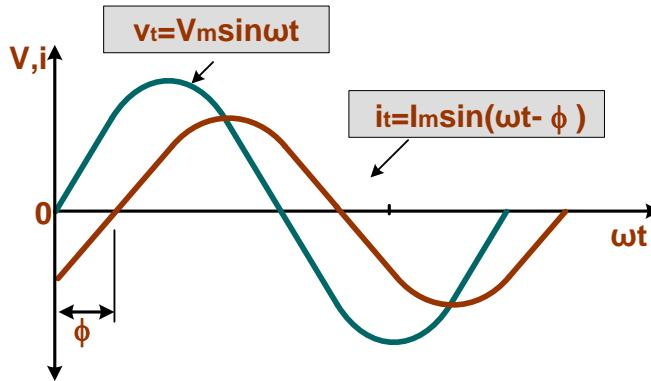

Figure 2.23 Waveform of Voltage and Current of Series R-L Circuit
- The voltage and current waves in R-L series circuit is shown in Fig. 2.23.